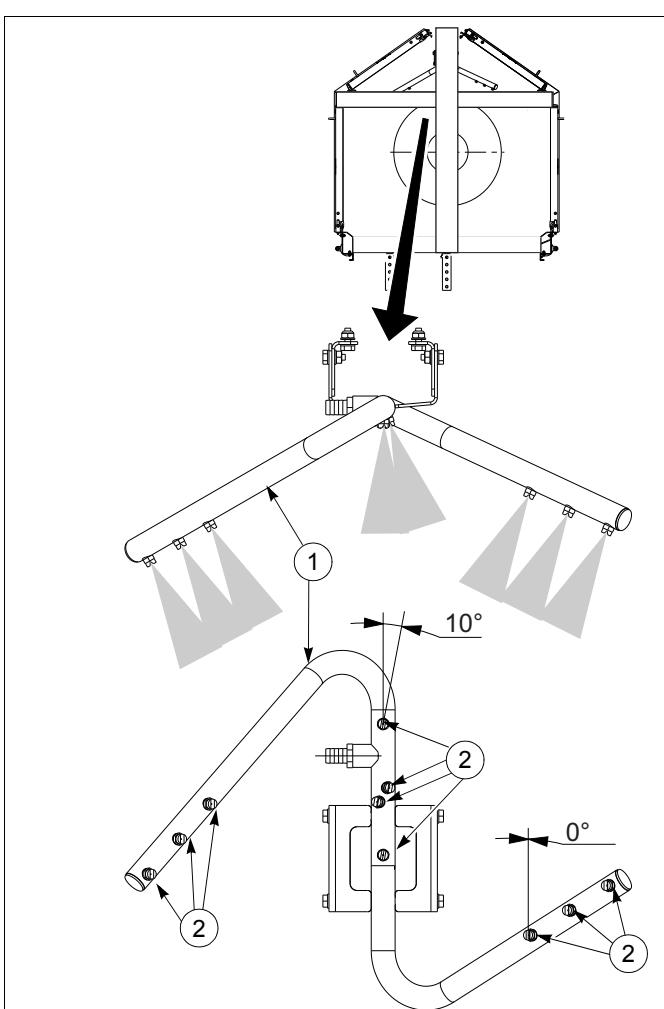

fig. 32 Outer spray pipe model B
- Adjust the flat jet spray as shown in fig. 32.